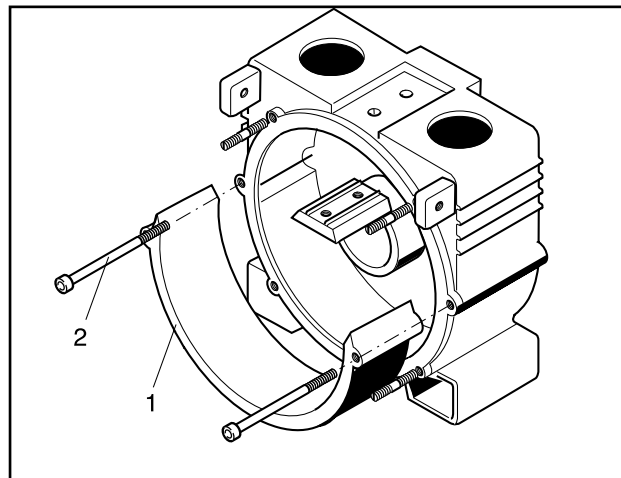

Fig. 21 Disassembly of abutment
2. Unscrew both abutment fastening screws (part-no. 1020, Fig. 13) and remove the abutment from the housing (part-no. 135, Fig. 21).